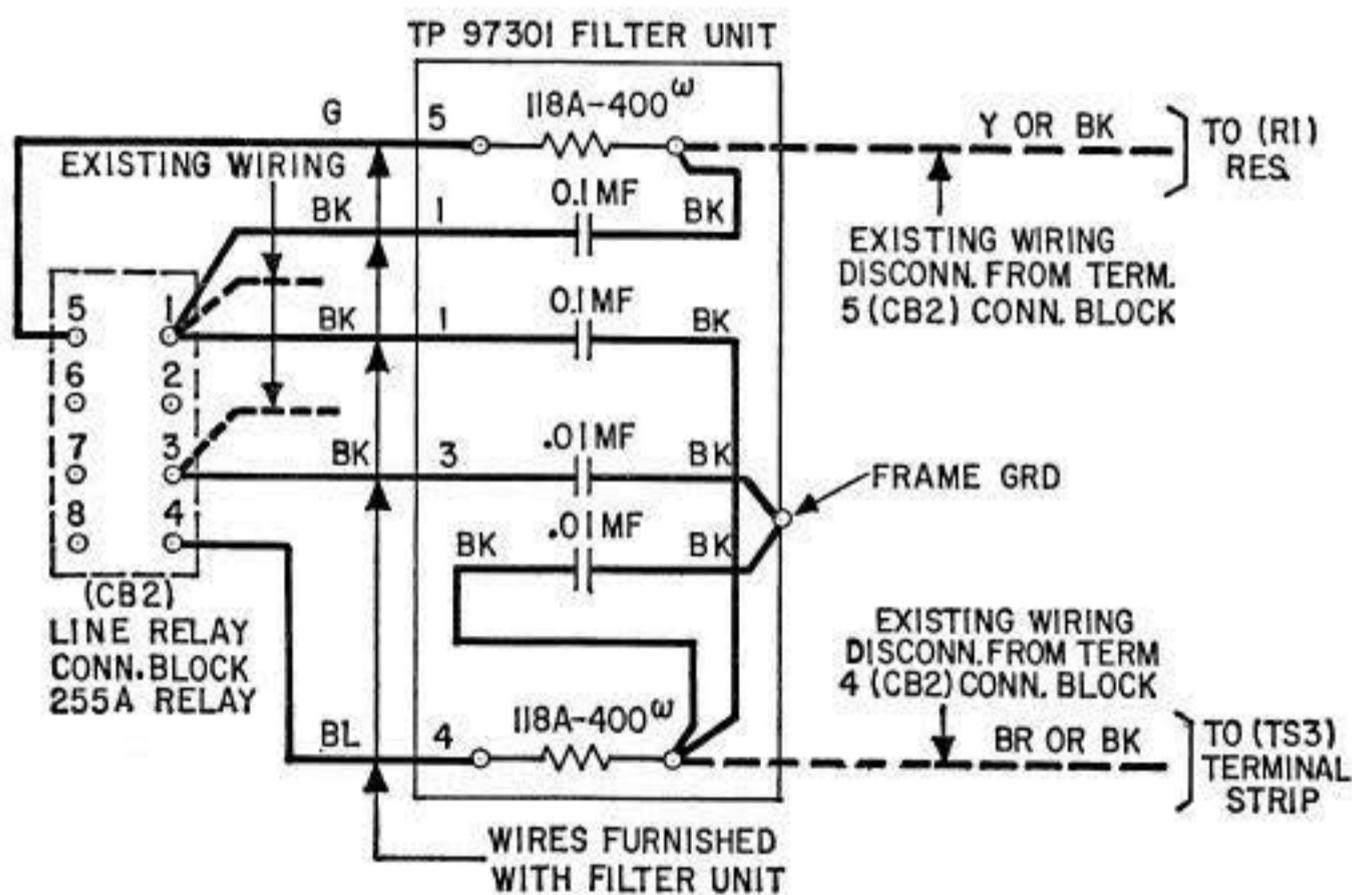

Fig. 1
2.02 Refer to Fig. 1 and connect the filter as follows:
- (1) Unsolder the lead connected to relay terminal 4 and connect it to the upper terminal of the filter resistor 4.
- (2) Unsolder the lead connected to relay terminal 5 and connect it to the upper terminal of the filter resistor 5.
- (3) Connect the short lead from the lower terminal of filter resistor 4 to terminal 4 of the relay connecting block.
- (4) Connect the short lead from the lower terminal of filter resistor 5 to terminal 5 of the relay connecting block.
- (5) Connect the condenser lead 3 to terminal 3 of the relay connecting block in which the line relay is operated on neutral signals. If the line relay is to be operated on polar signals with the two relay windings in series, connect the filter condenser lead 3 to terminal 2 of the relay connecting block.
- (6) Connect the two filter leads marked 1 to terminal 1 of the relay connecting block.
- (7) Check the connections of the filter with Fig. 1.